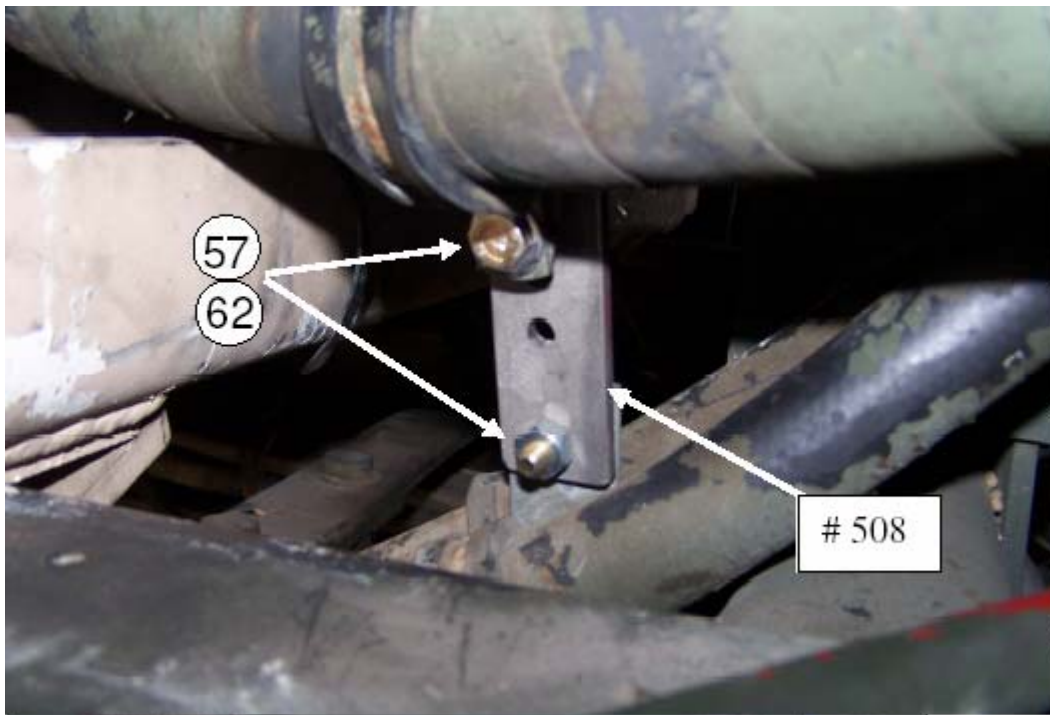

Figure 7-4. Strap Installation.
Fasteners: (see Figure 7-4)
6. Reconnect the P-clips that were disconnected in Step 1 using the strap support part #508 (see Figure 7-4). The strap support allows for the adjustment of the spacing between the upper and lower set of P-clips. This spacing should be set to minimize the potential for the hose to wear or rub on the frame or cab components.